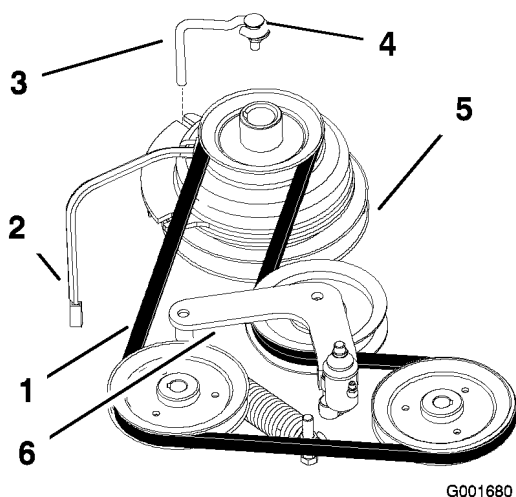

Figure 47
2. Remove the bolt from the clutch stop and unplug the clutch electrical wire (Figure 47).
4. Remove the traction belt from the engine and the hydraulic pump pulleys (Figure 47).
5. Install the new belt around the engine and the hydraulic pump pulleys (Figure 47).
7. Release the pressure on the spring loaded idler (Figure 47).